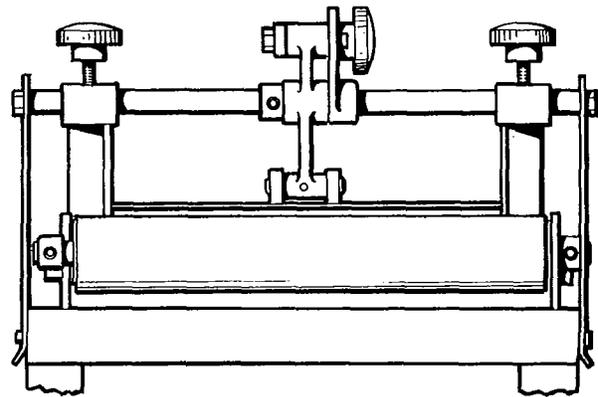

Figure 2-6. Pie and Sweet Dough Attachment.
a. A combination pie and sweet dough roller attachment (Figure 2-6) is used when added to the standard machine.